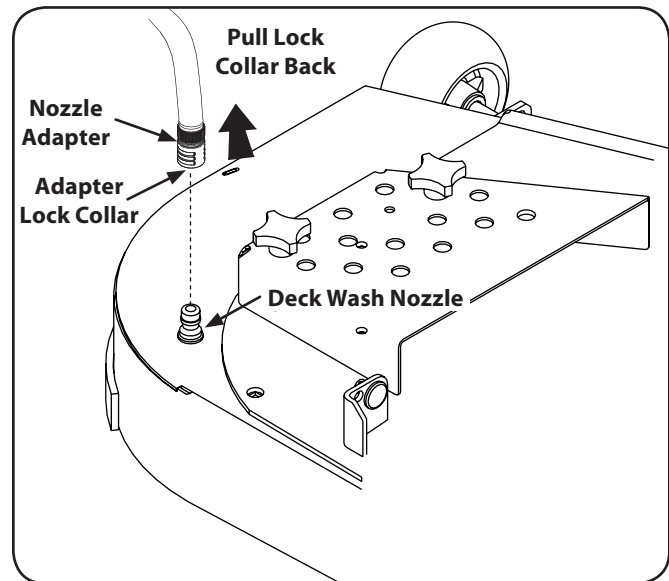

Figure 1-3
3. Pull back the lock collar of the nozzle adapter and push the adapter onto one of the deck wash nozzles at either end of the mower deck. Release the lock collar to lock the adapter on the nozzle. See Figure 1-3.